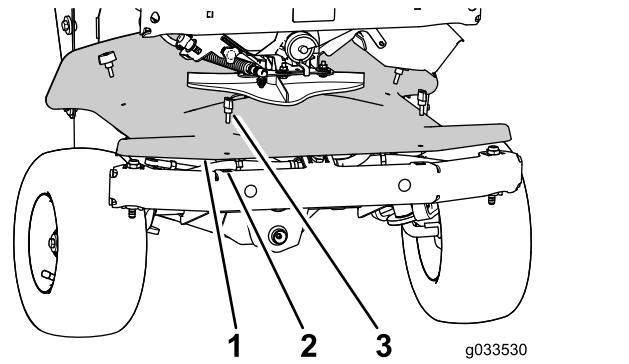

Figure 82
- A. Remove the 4 thumb screws that secure the front cover (below the impeller) to the chassis and remove the cover (Figure 82).